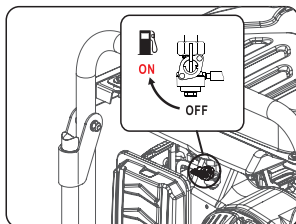

Fig 11
- Turn fuel valve to the “ON” position. (See fig 11)